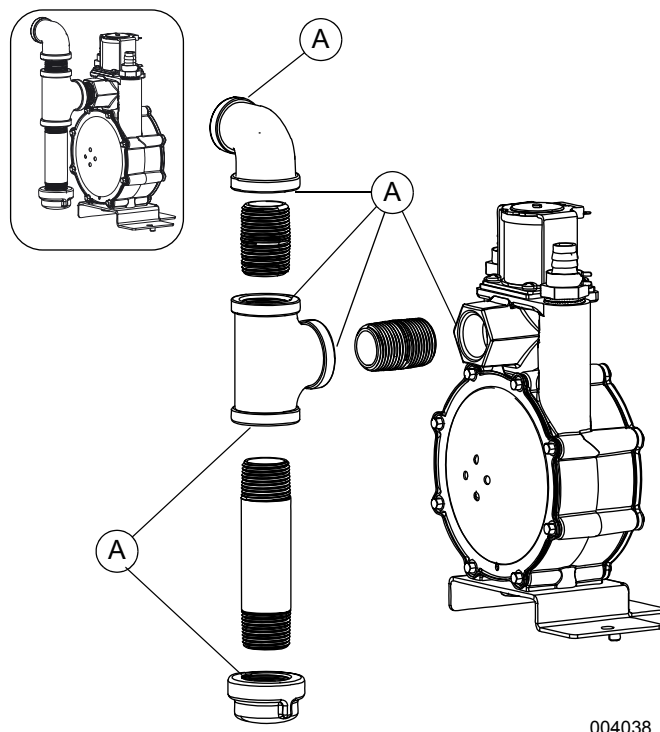

Figure 4-7. Connection Points to Leak Check
See Figure 4-7. Perform a final fuel system leak test after generator installation. The test will identify possible leaks at all connection points (A).